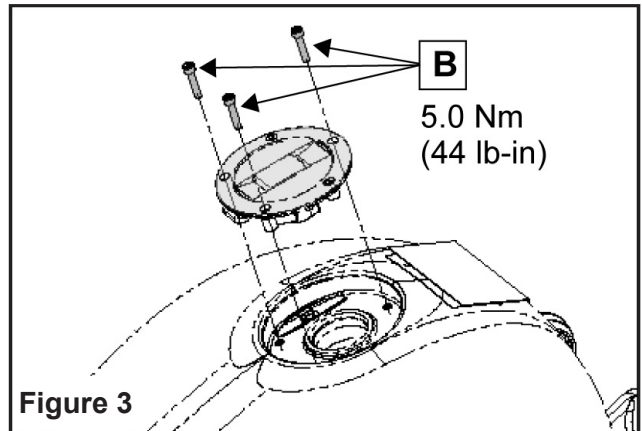

Figure 3
3. Remove three fuel cap retaining screws (B) and cap. Figure 3.
5. If the **tank** you are replacing is a 2003-2005 49 State tank (identified by a **single** drain line attached to a single fitting underneath the old tank), remove and discard the small vent passage seal (C). The seal is located in the right rear corner of the fuel cap area on the new tank.